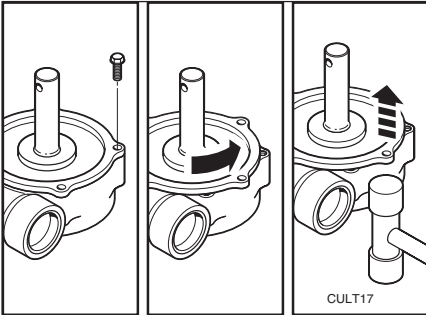

Figure 17
3. Turn gearcase side plate to break the seal and lift the plate from the gearcase. See Figure 17.